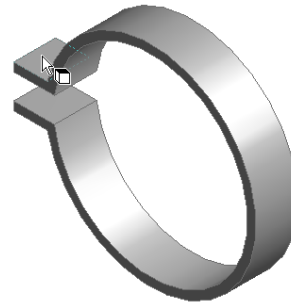

Figure 3-102 Selecting the flat face for defining the Sketching plane
- Select the top face of the rectangular flange, refer to Figure 3-102.